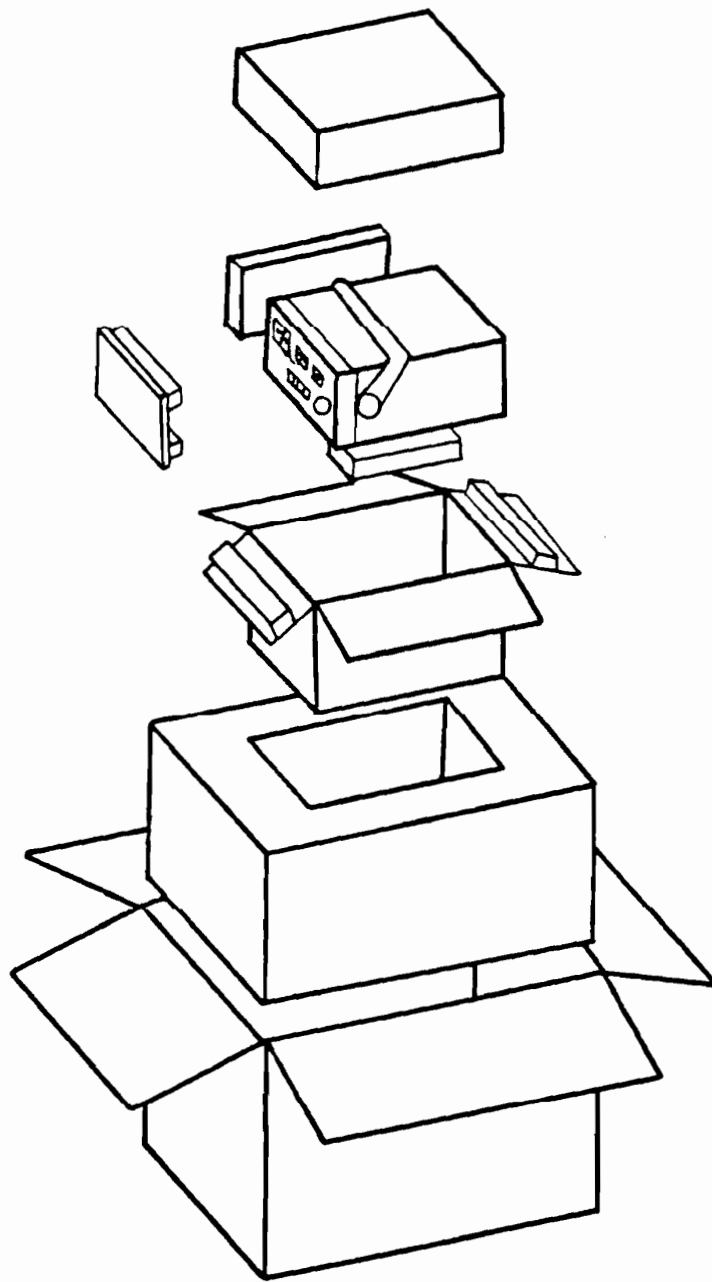

Figure 1-1. Typical CE-6000 Series Instrument Packaging
| Figure 1-1. | Typical CE-6000 Series Instrument Packaging. | 3 |
1.03.4 If the original container is to be used, place the instrument in the container as shown in Figure 1-1. If the original container is not available, one can be purchased from Cushman Electronics. Seal the container with packaging tape approved by the transporting agency.